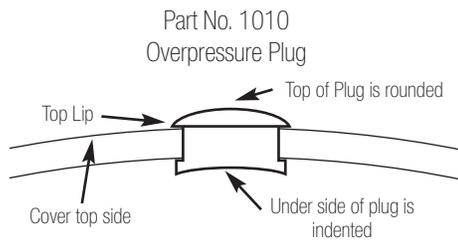

Fig. 7
6. OVERPRESSURE PLUG, PART NO. 1010 (See Fig. 7). Your sterilizer is also equipped
pushing the round top side into the opening from the underside of the cover (See Fig. 7).